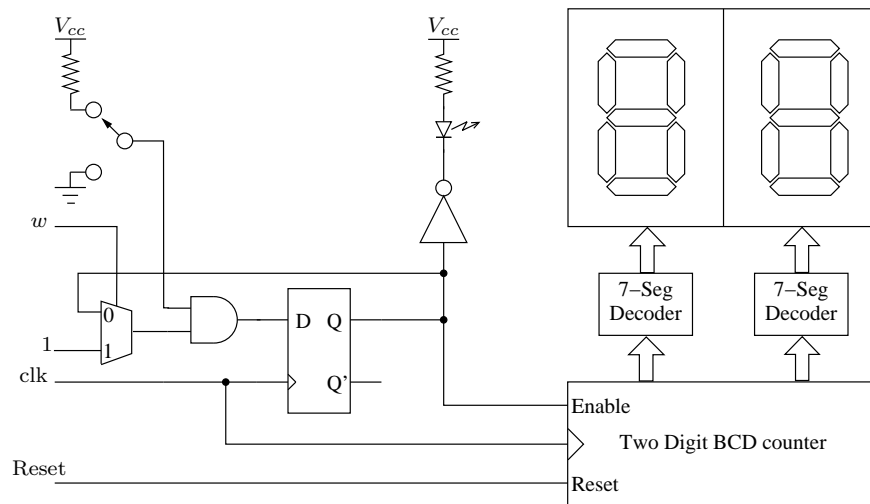

Figure 1: Circuit for testing your reaction speed.
In this lab you will design a sequential circuit to test your reaction speed. The basic idea is that you hit a switch as soon as you see an LED light up. The amount of time you took to react will be displayed on two 7-segment displays. Figure 1 shows the overall circuit that you will design and build. You will use a clock `clk` to drive a two digit counter, the `w` signal will be a pulse that lights the LED. The LED will turn off as soon as you hit the switch, and the signal `Reset` can be used to reset the counters, the display and get the circuit ready to start over.
2. Now that you have a 100Hz clock, you can use that to count the time it takes you to press the switch after the LED goes on and display that on two 7-segment displays. To accomplish this you will need to write a code that will increment the least significant digit and every time it reaches the number 9 you reset it and increment the most significant digit. Write a Verilog code to implement the two digit BCD counter as shown in Figure 1.
3. Write a Verilog code to implement the entire circuit as shown in Figure 1. Use one of the LEDs on your board.